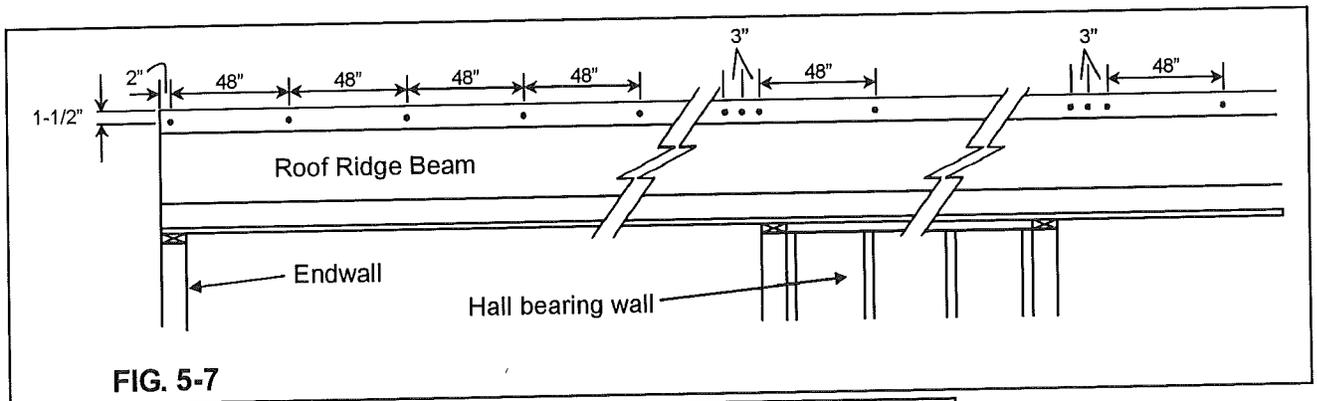

FIG. 5-7
6. To obtain access into the ceiling cavity to bolt or alternately lag screw the ridge beam sections together, fold back the underlayment paper and remove the $16"$ wide sheathing panel(s) at the peak. Note that the shingles may not have been installed on one or both halves, at the $16"$ wide area at the peak. If one side is shingled, it is intended that the beams be lag screwed together. If neither side is shingled, the beam may be lag screwed or bolted together. Bolts to be $3/8" \times 5"$ at $24"$ o.c. with 6 additional lag screws at $3"$ o.c. over interior beam supports. (If marriage walls and ridge beam halves have been plated with $3/8"$ sheathing, then the bolts/lags must be increased in length by $3/4"$ to $5-3/4"$.) Pre-drill $1/4"$ pilot holes for the lag screws at $1-1/2"$ down from the top of the beam and with a maximum offset from the horizontal of 45 degrees. A gap between beam halves up to $1"$ is allowable. Gaps larger than $1/2"$ must be filled with plywood or lumber shims. For $1/2"$ max gaps, increase fastener length $1/2"$. For $1"$ max. gaps increase fastener length $1-1/4"$. See Fig. 5-7.